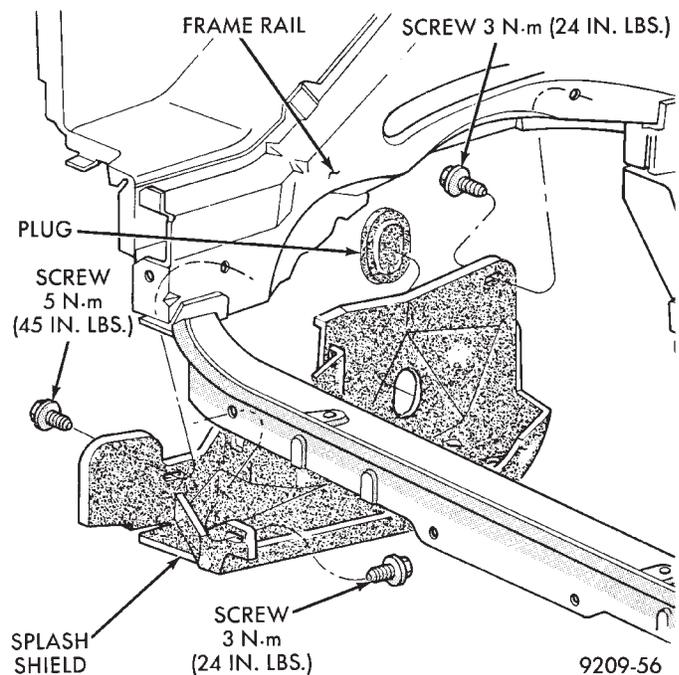

Fig. 8 Right Inner Splash Shield—Typical
(4) Remove two steering pump to engine mounting brackets screws and one rear support lock nut.
(5) Lay power steering pump aside.
(6) Raise vehicle and remove right inner splash shield (Fig. 8).